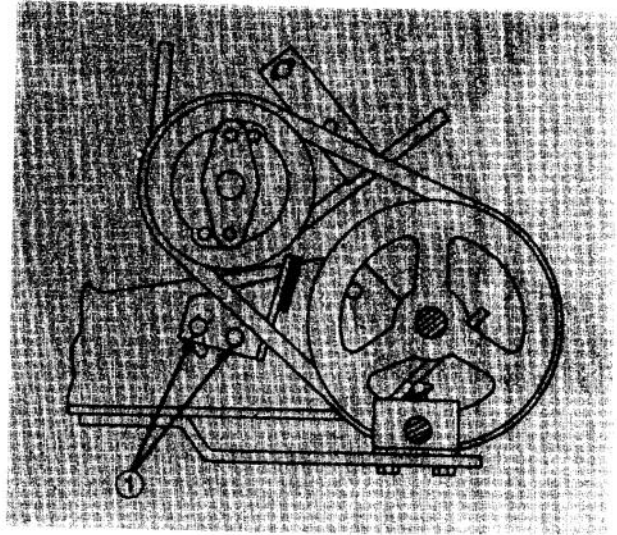

Figure 77
2. Remove carriage bolts and flange nuts securing brake assembly (Fig. 77). Inspect brake pad for excessive wear or damage. Replace if pad is worn close to the metal.